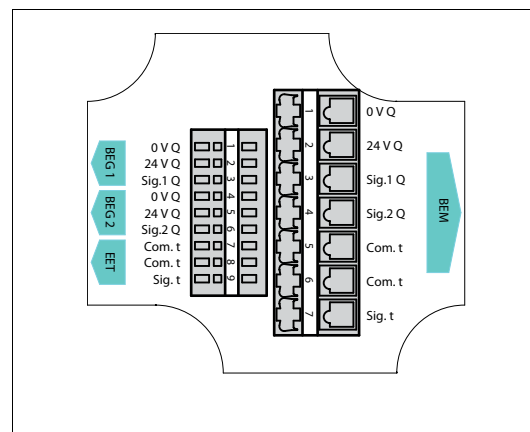

Fig. 7 Connection circuit diagram junction box
2. Carry out the cabling of the pick up and of the temperature sensor through the cable glands **2** in the junction box. Observe the connection circuit diagram, see Fig. 7, page 42.